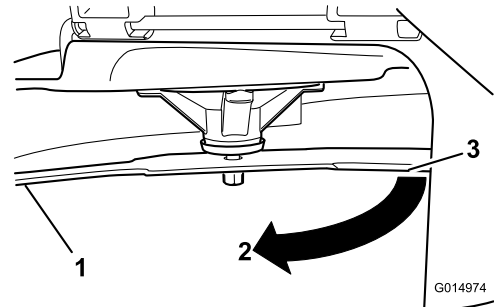

Figure 53
3. Measured distance between blade and the surface (A)
4. Rotate the same blade 180 degrees so that the opposing cutting edge is now in the same position (Figure 53).